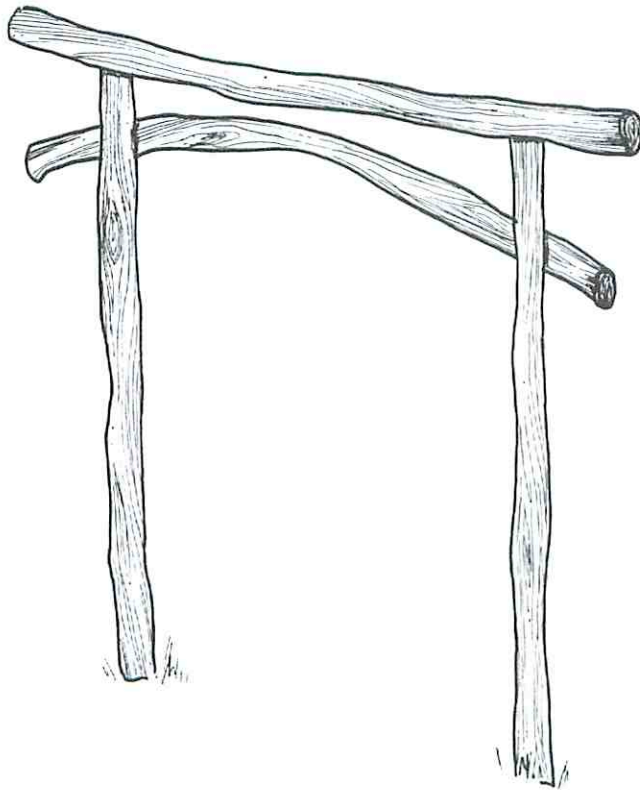

Figure 1
To start building the trellis, you'll need to gather your base supports (A) and caps (B). Start with a pair of base supports and one cap piece – you will be assembling one side of the frame first, then the other. Top the two base supports with the cap piece. Keep in mind that the caps should overhang the edges by about 12" on each side. See Fig. 1. Notch the cap piece, predrill holes, then lag bolt to the base supports. Repeat these steps for the other cap piece and pair of base supports.
Next, add the arches (C). Your assembly will be slightly different depending on the quantity and shape of the wood you're using. If you were able to collect two pieces, simply notch and lag bolt each one to each side of the frame, as in Fig. 1.